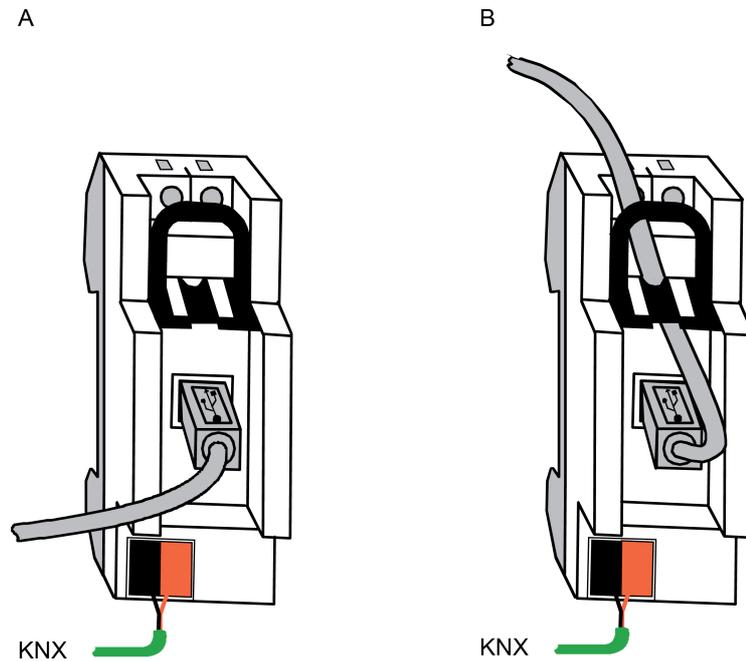

Figure 3: Device connection (RMD design)
- Snap onto DIN rail according to DIN EN 60715. Observe the installation position (figure 3).